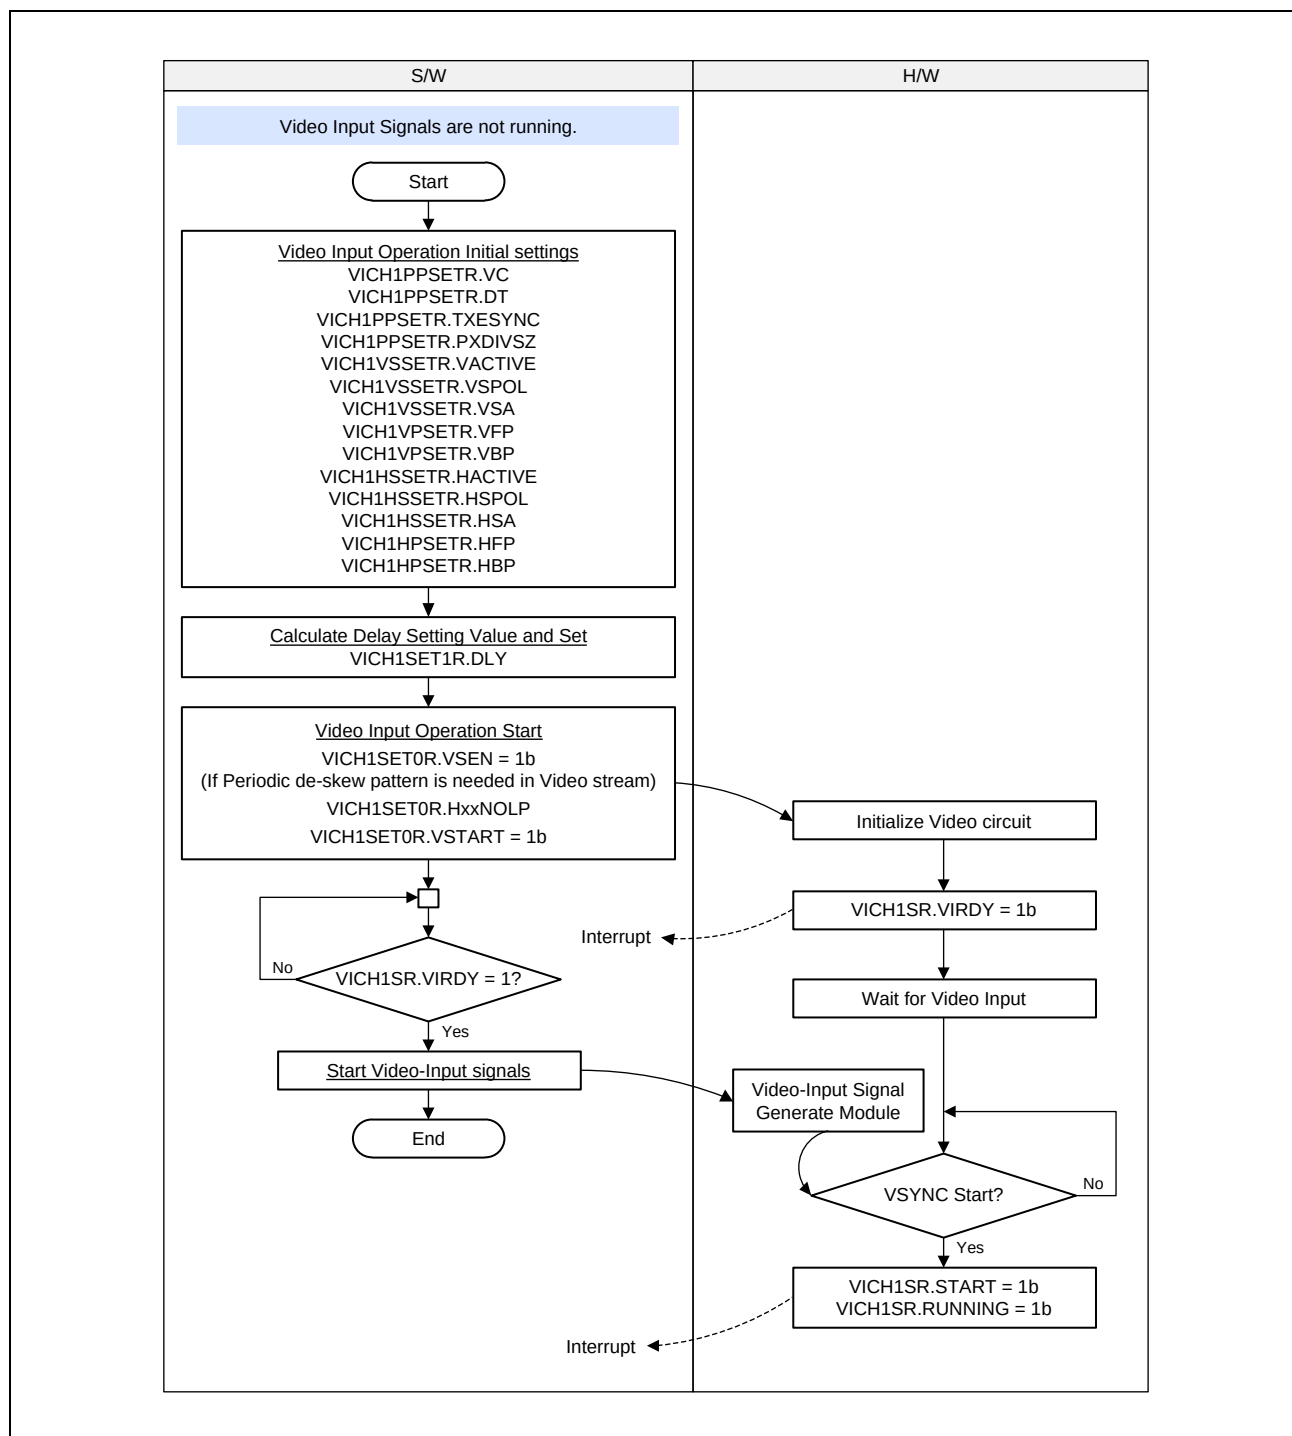
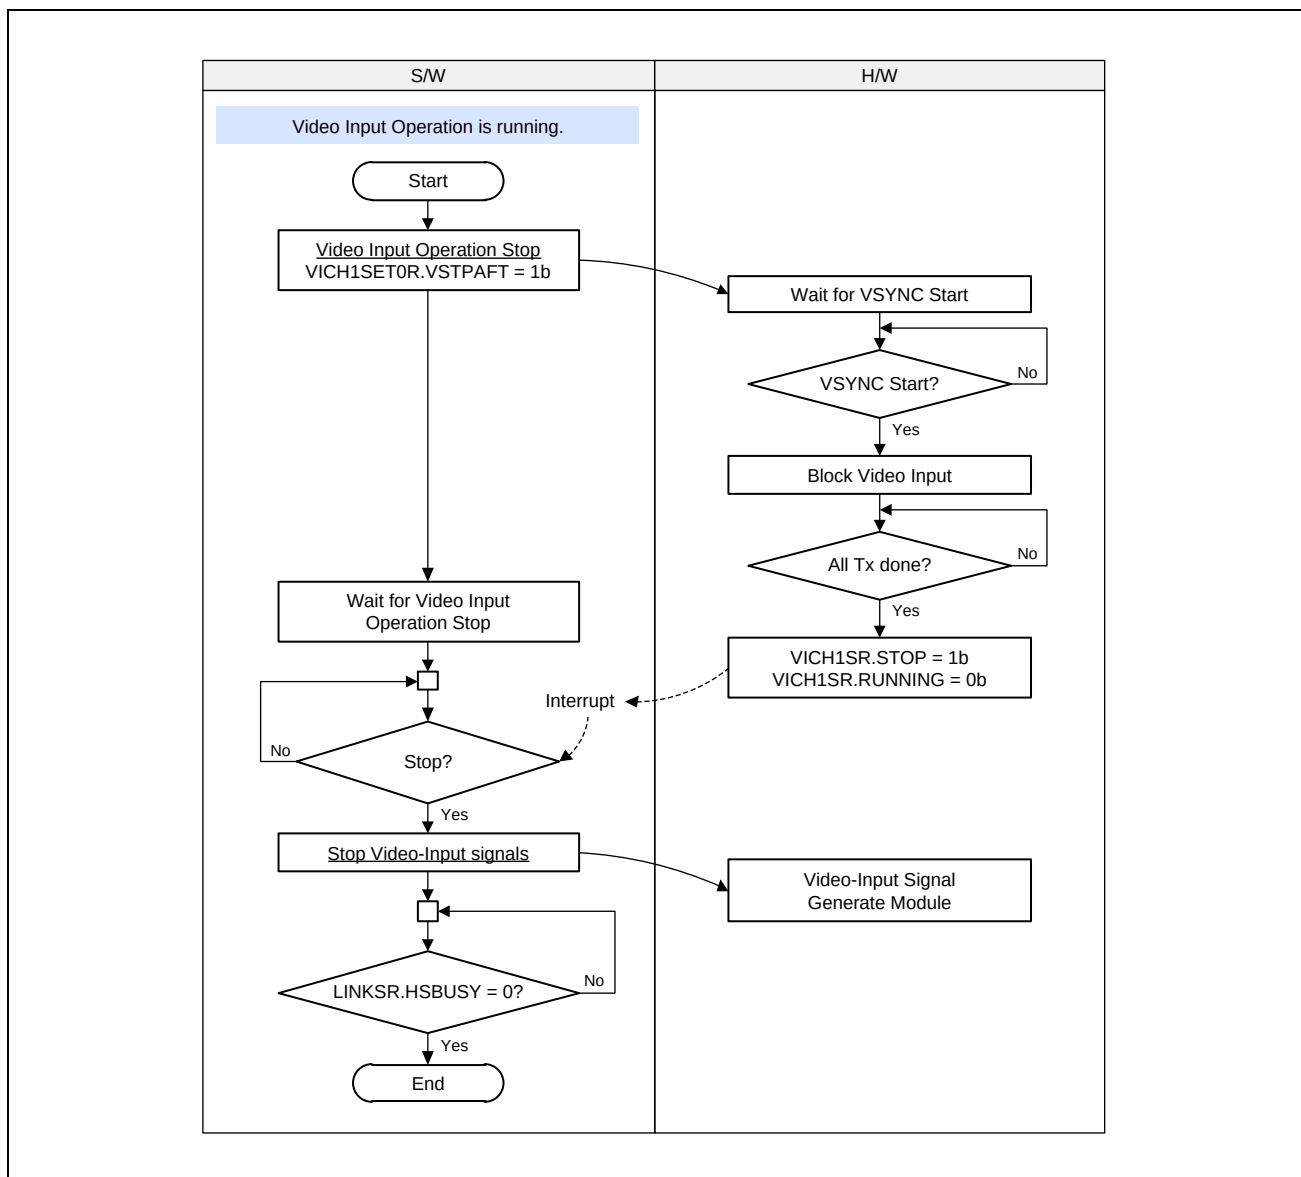

Figure 9.5-12 Video-Input Channel Start
Figure 9.5-13 End of Video-Input Operation (VICH1SET0R.VSTPAFT)
The procedure for Start of Video-Input Operation is shown in **Figure 9.5-12**.
The video-input operation stop flow is shown in **Figure 9.5-13**. Execute the flow when VICH1SR.RUNNING = 1b.
1) VICH1SET0R.VSTPAFT (Figure 9.5-13)
Note 1. “While Video-Input Operation is operating” here is different from VICH1SR.RUNNING. It means the period from setting VICH1SET0R.VSTART to 0b in the flow of **Figure 9.5-12** until VICH1SR.RUNNING becomes 0 in the flow of **Figure 9.5-13**. Also, Note that there is some latency from executing VICH1SET0R.VSTART to being transmitted to the inside of the module for clock transfer.